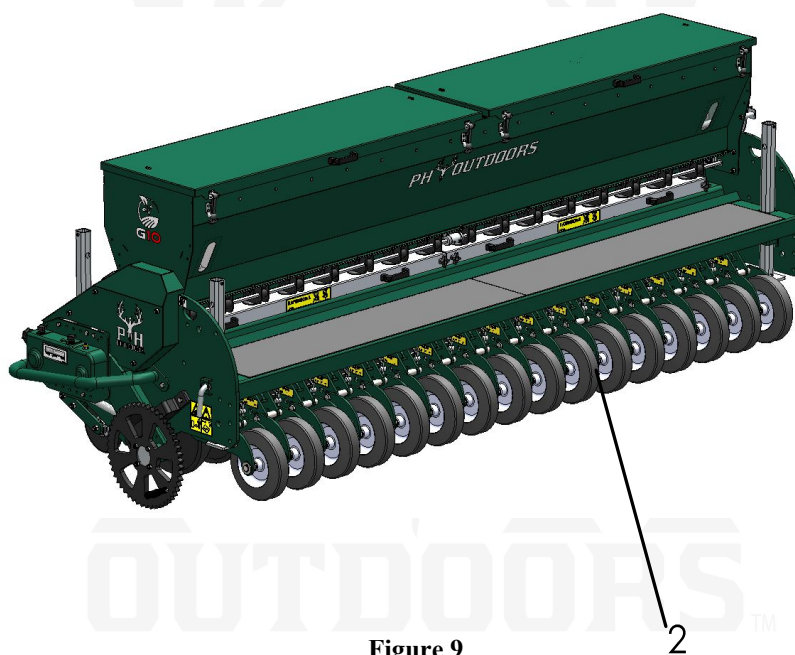

Figure 9
Please note that all wheels (2) are adjusted to the same depth before working with the machine. (Figure 9)